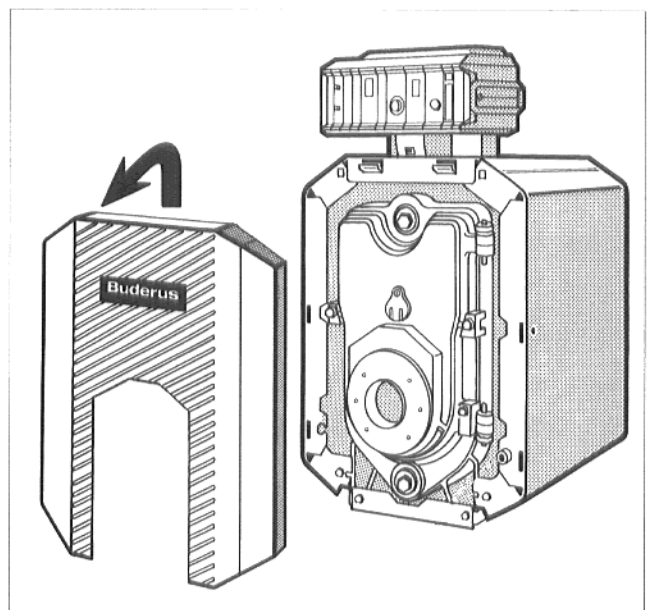

Fig. 33
- Lift the burner door cover slightly and remove towards the front (Fig. 33).